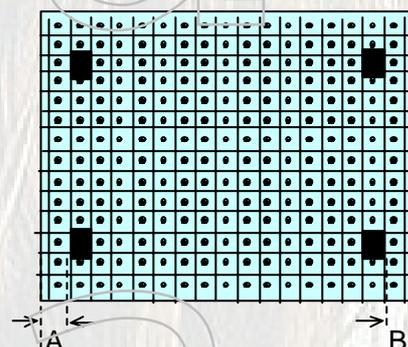

Fig.1-9 PAL CONVERGENCE
2. Adjust each distance of A (from ■ to left edge on screen) and B (from ■ to right edge on screen) so that they are equal. (Fig. 1-9)